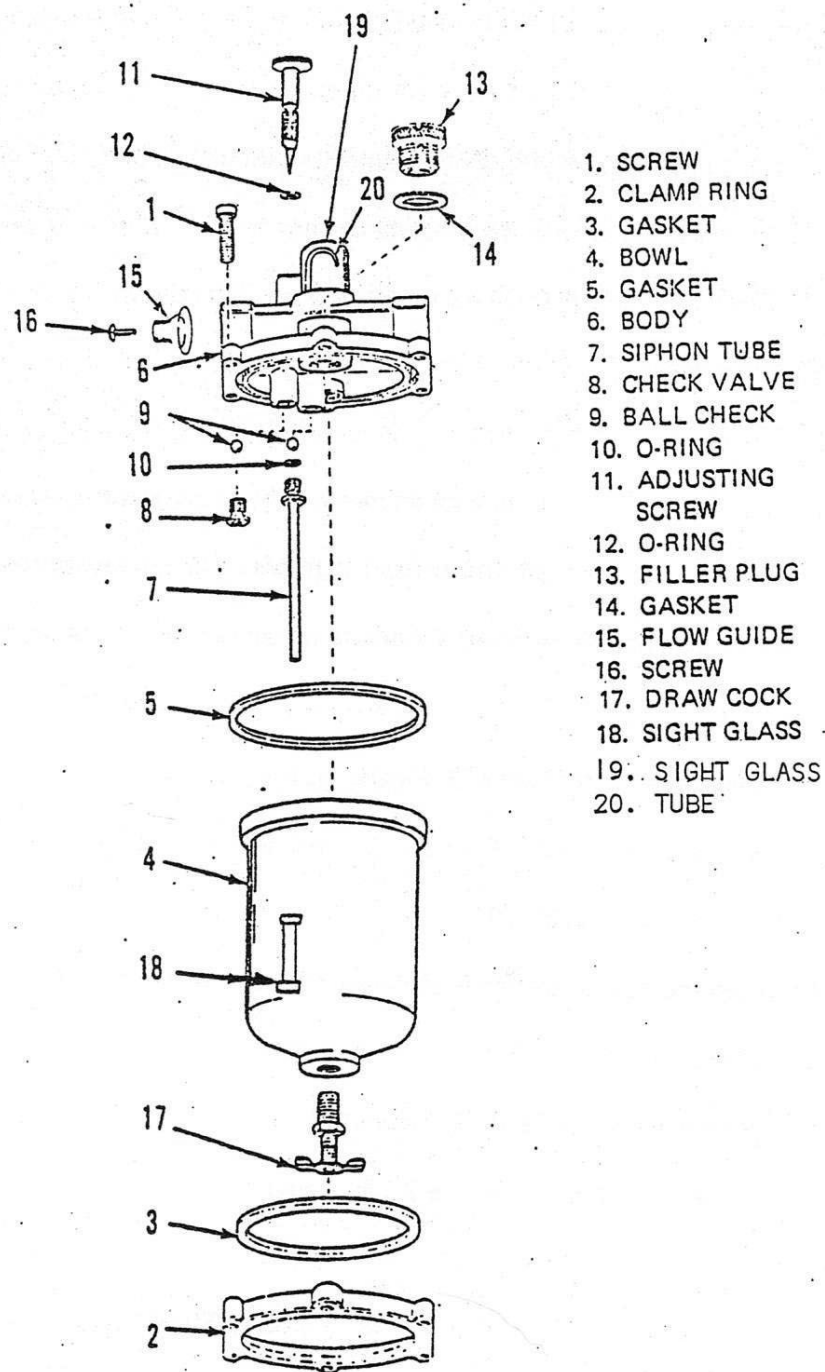

Figure 2-15 Pneumatic Lubricator
- (2). Remove the screws (1, Figure 2-15), clamp ring (2), gasket (3), bowl (4), and gasket (5) from the body (6).
(10). Use Figure 2-15 as a guide, and reassemble the lubricator by reversing disassembly procedures above.
(16). Count the number of drops of oil per minute falling from the tube (20, Figure 2-15) inside the sight glass (19). The rate of flow should be 1 to 3 drops per minute.
(17). If necessary, turn the adjusting screw (11) to attain the desired number of drops per minute.